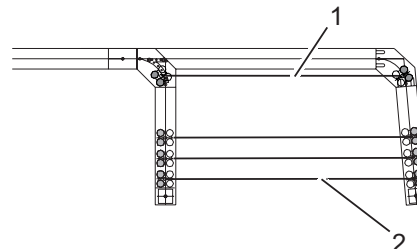

Fig. 2: Parking the panel in the stacking area (example)
4. Move more panels (Fig. 2/1) into the stacking area. Ensure a safe distance to the already parked panels (Fig. 2/2).